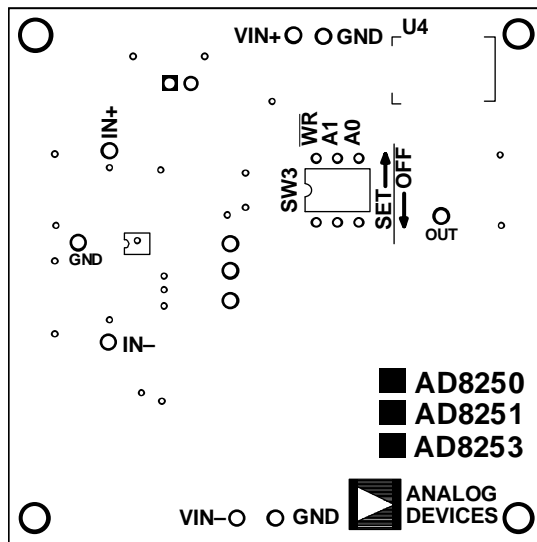

Figure 7. AD8251-EVALZ Silkscreen
- A small slotted screw driver, or similar device, to adjust the three DIP switches within the SW3 DIP switch (see Figure 7).
1. Before any connections are made, verify the initial DIP switch configuration. Set all switches to the off position, as indicated by the silkscreen (see Figure 7).